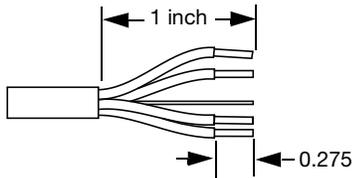

Figure 27: Stripping Cable Shielding and Wires
1. If the cable has not yet been stripped, strip one end of the cable. Strip the outer shielding by 1 inch and then strip the black, red, blue, and white wires by 0.275 inch (Figure 27).